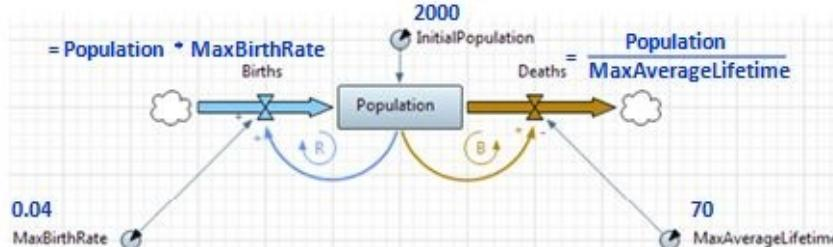

Figure 5.10 The population model. Unlimited resources
8. Create two more parameters: *MaxBirthRate*, with the default value 0.04, and *MaxAverageLifetime*, with the default value 70. Place the parameters near the *Births* and *Deaths* flows correspondingly, as shown in Figure 5.10.
28. Open the **System Dynamics** palette and drag the **Loop** icon inside the *Population -> Births -> Population* loop, as shown in Figure 5.10. Change the loop type to **R** (reinforcing).